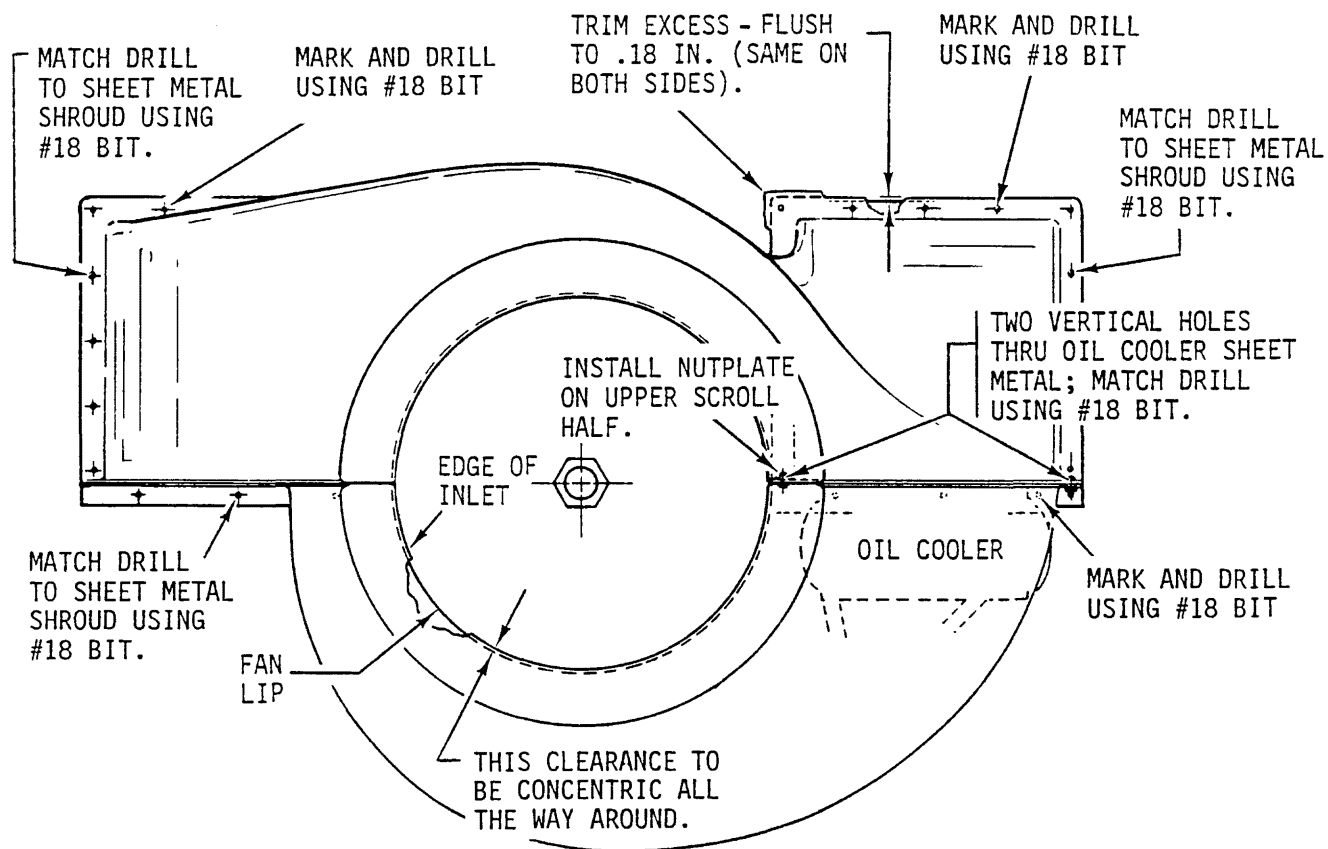

FIGURE 6-5B COOLING SCROLL REPLACEMENT
- c) Place the upper scroll half (A236-1) and the engine cooling fan on the fanshaft. Do not disturb the position of the lower actuator bearing. Finger tighten the fanshaft nut. On Beta and Mariner ships with the larger oil coolers, the right-hand side of the upper scroll sits on the oil cooler ledge. Adjust the upper half laterally to center the lip of the fan and the edge of the inlet scoop, then clamp to the sheet metal shrouds (See Figure 6-5B).
- d) Install the lower scroll half (A236-3) to the upper. Check the clearance between the lip of the fan and the edge of the inlet scoop. The clearance should be concentric all the way around the lip of the fan. Adjust both the halves as required and clamp into position (See Figure 6-5B).